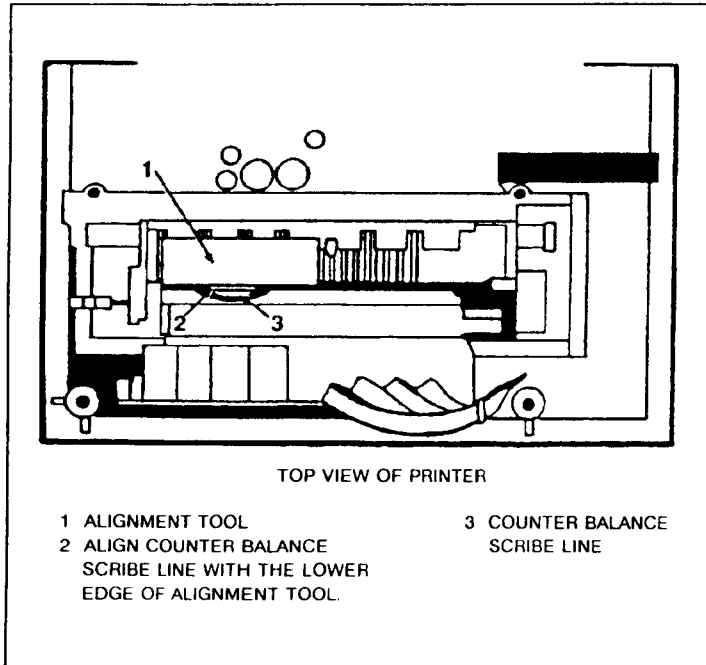

Figure 5-1. Crank Arm Phasing
- b. Place the phasing tool (P/N 02566-20129) against the printbar fins, with the edge of the tool resting on top of the counter balance (see Figure 5-1, item 1).
- d. Check the alignment of the counter balance weights to see if the scribed reference line is parallel with the edge of the tool (see Figure 5-1, item 2). If the line is parallel, no adjustment is needed. If the line is not parallel, proceed to step e.